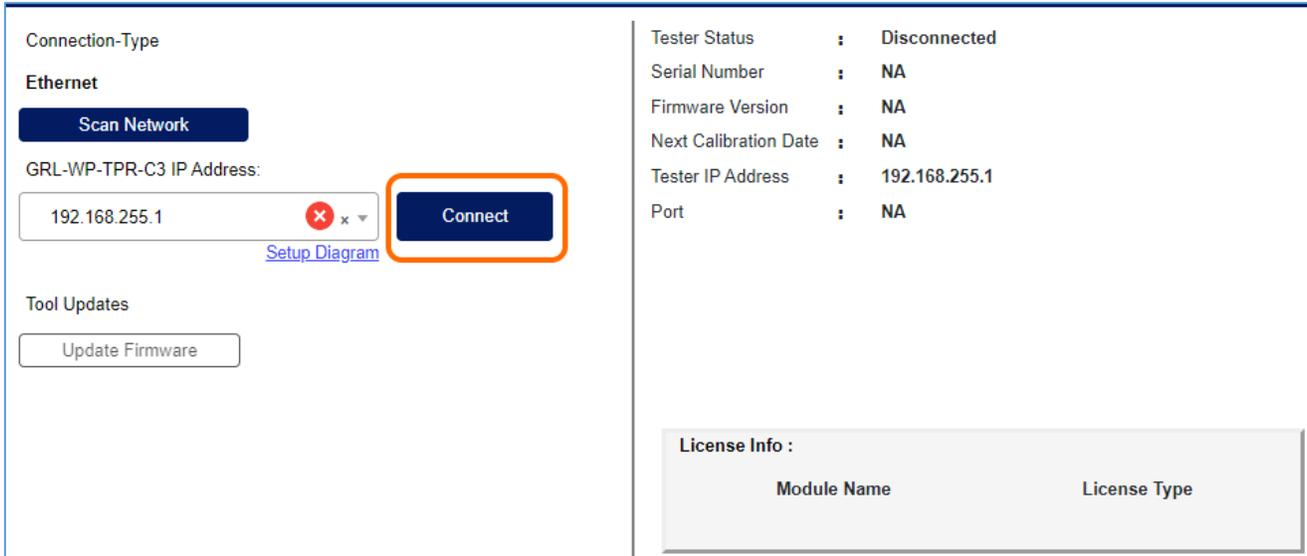

FIGURE 7.7: UPDATE GRL-C3 FIRMWARE– #4
- After the GRL-C3 tester hardware has rebooted, click on the Connect button to re-establish connection with the Browser App (Figure 7.7 below).